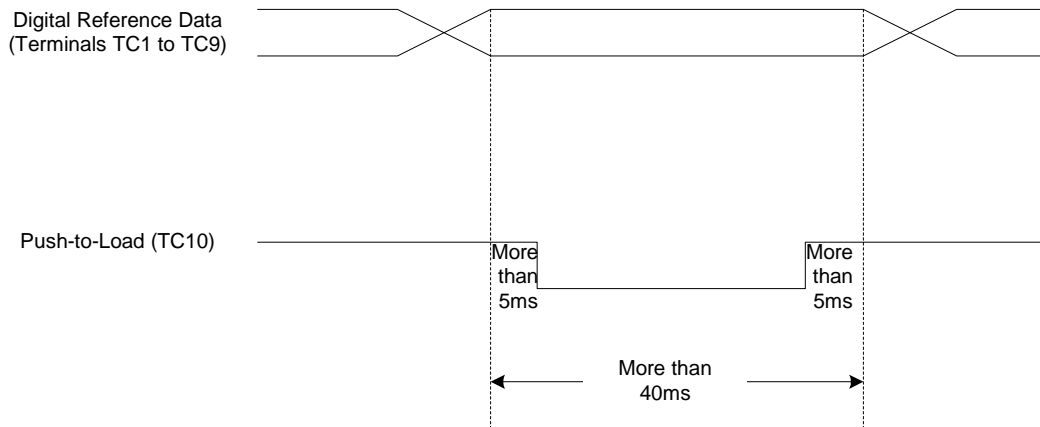

Figure 3. Timing of Push-to-Load Input
* SET (load) signal is used to tell the drive to read the data. To set, close between TC-10 and TC-11 by the timing shown in Figure 3.